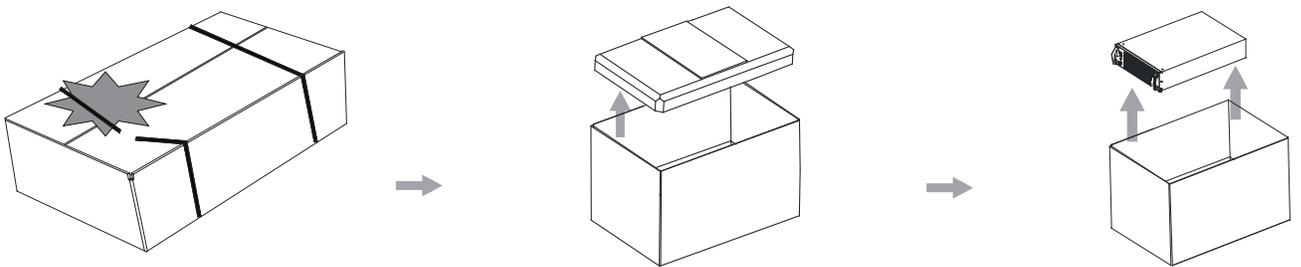

Figure 3-7: Instruction for Femoving the UPM Module Packaging
1. Cut off the packing strap and open the carton (see Figure 3-7);
2. Lift the foam on the UPM module upward to remove them (see Figure 3-7);
3. Take out the UPM module (see Figure 3-7).